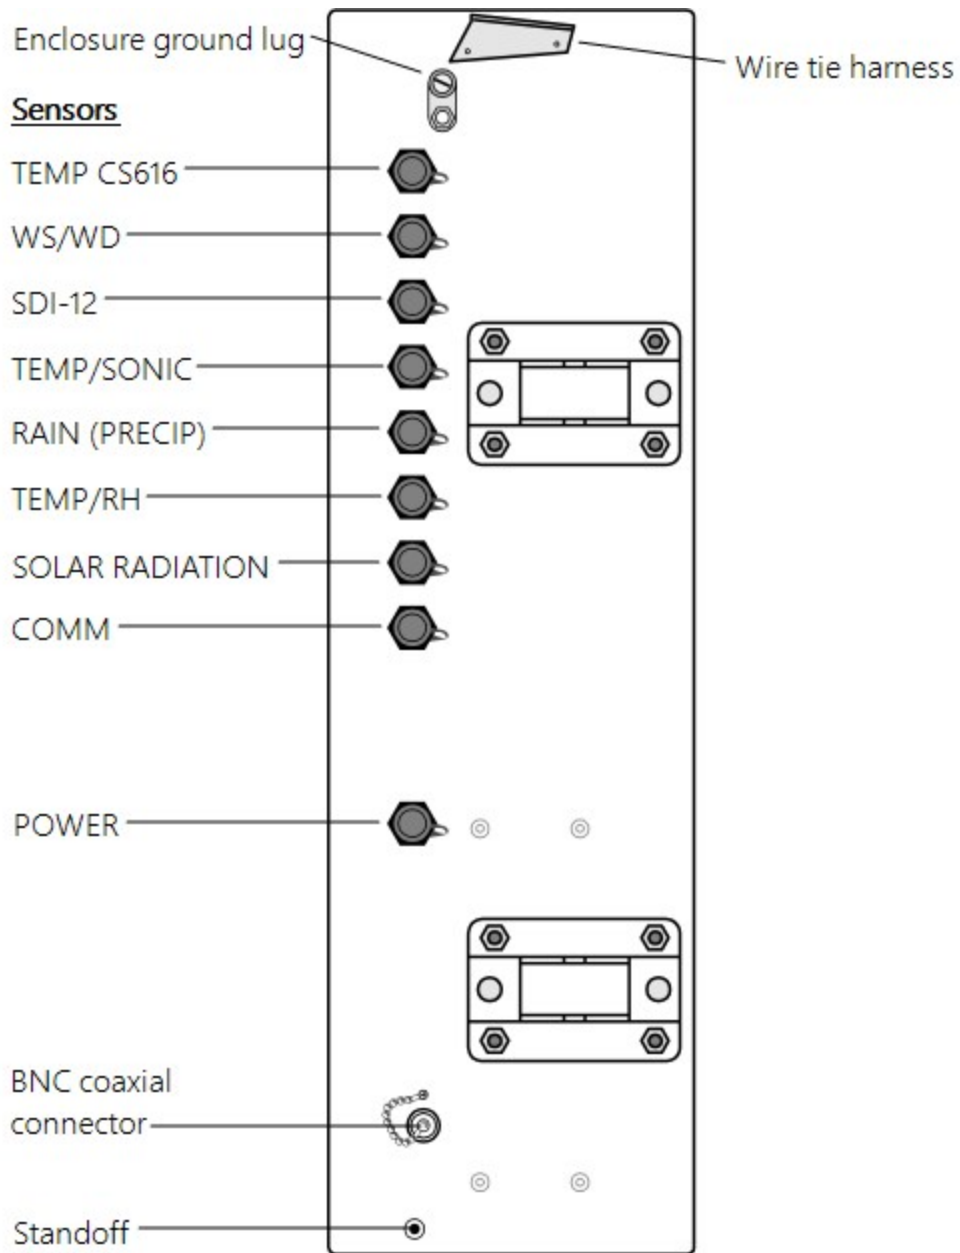

FIGURE 6-6. Position of bulkhead connectors
7. Connect the power plug to the POWER connector on the back of the enclosure (FIGURE 6-6 (p. 20)). Ensure that the plug is completely seated on the connector and the locking ring is turned a quarter revolution clockwise.
Each sensor cable plug attaches to a unique bulkhead connector (FIGURE 6-6 (p. 20) and FIGURE 6-21 (p. 34)). The labeling of the sensor cables match the labeling on the back of the enclosure. For more information, refer to Sensor schematics (p. 69).